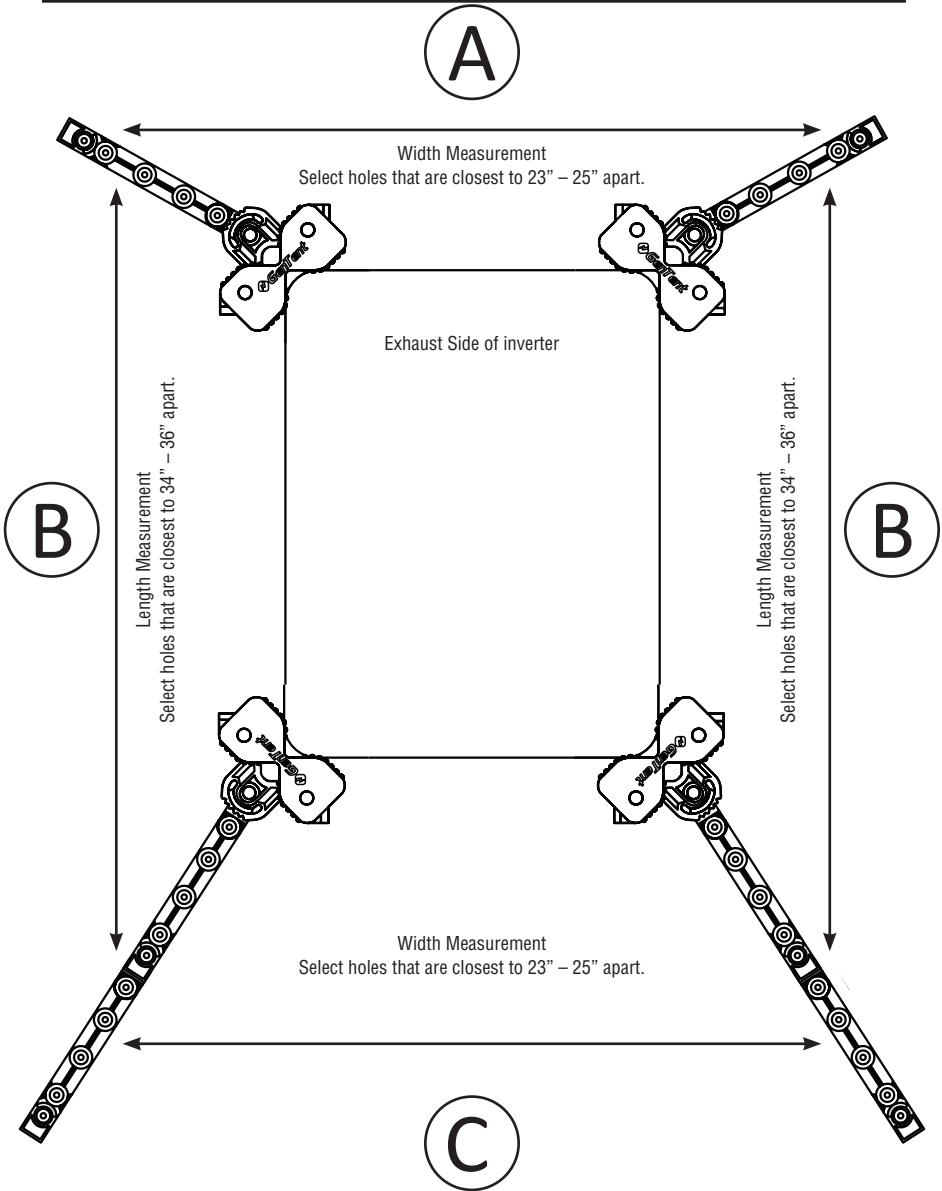

Fig. 2.4
- Move to the opposite end from your exhaust and add Extender Arms evenly until you can measure a length between 34" to 36". (Fig. 2.4 "B")
- f. Measure the width between the rod holes on the second set of Angle Braces to be sure the distance is between 23" and 25" (Fig. 2.4 "C")